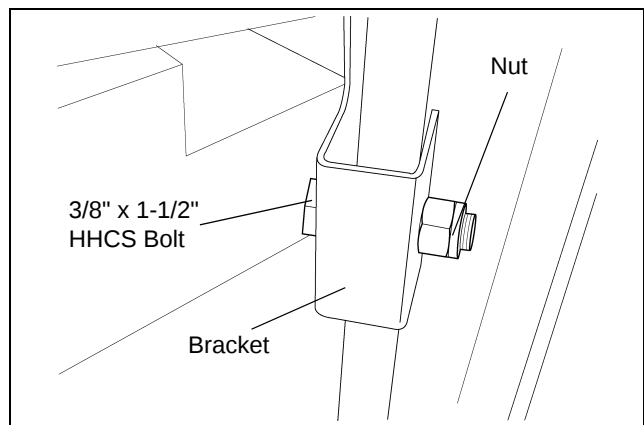

Figure 5B Close-up of Bin Mount Bracket on Leg
- b. Attach to leg using 3/8" x 1-1/2" HHCS bolt and hex nylock nuts. No drilling is required. (*See Figure 5B.*)
- c. Attach display box to the mount using the three (3) #10 nuts provided.
- a. Attach junction box and bin leg mounting bracket to bin leg using 3/8" x 1-1/2" HHCS bolt and hex nylock nuts. No drilling is required. (*See Figure 5B.*)